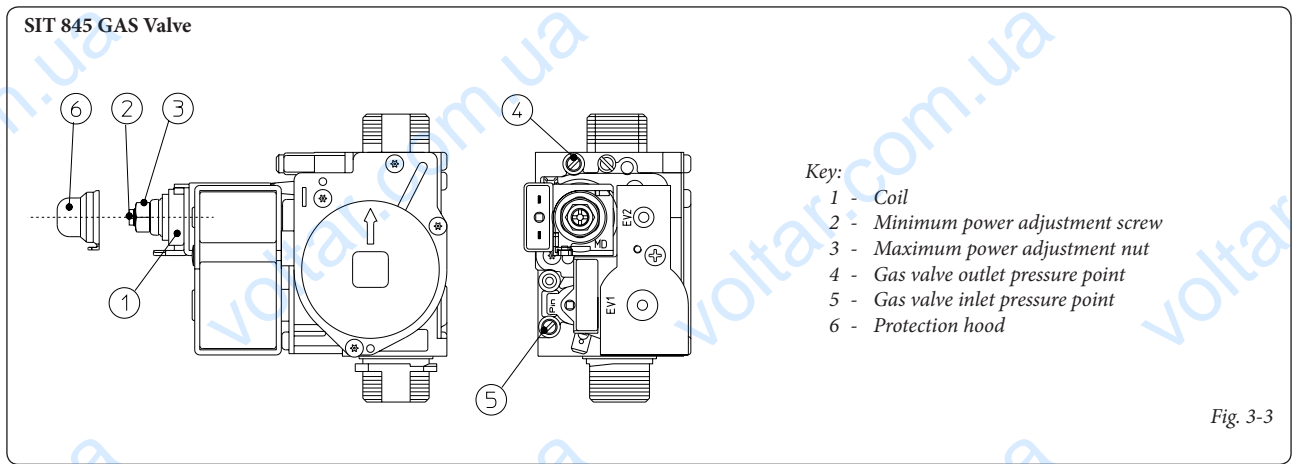

Fig. 3-3
N.B.: all boiler adjustment operations must be carried out by a qualified technician (e.g. Immergas After-Sales Technical Assistance). Burner adjustment must be carried out using a differential "U" or digital type pressure gauge located above the sealed chamber (part. 9 Fig. 1-33) and the gas valve pressure outlet (part. 4 Fig. 3-3), keeping to the pressure value given in the table (Par. 3.18) according to the type of gas for which the boiler is prepared.
N.B.: to adjust the gas valve, remove the plastic cap (6); after adjusting, refit the cap.
- Adjust the boiler nominal power on the brass nut (3 Fig. 3.3), keeping to the maximum pressure values stated in the tables (Par. 3.18) according to the type of gas; by turning clockwise the heat potential increases, anti-clockwise it decreases.